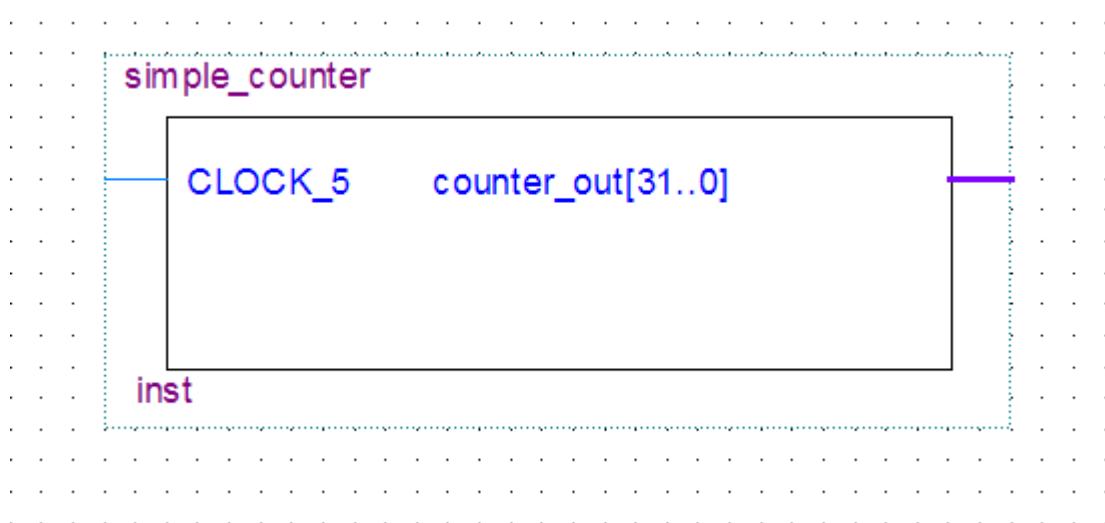

Figure 6-18 Placing the simple_counter symbol
13. Move the cursor to the BDF grid; the symbol image moves with the cursor. Click to place the simple_counter symbol onto the BDF. You can move the block after placing it by simply clicking and dragging it to where you want it and releasing the mouse button to place it. See **Figure 6-18**.